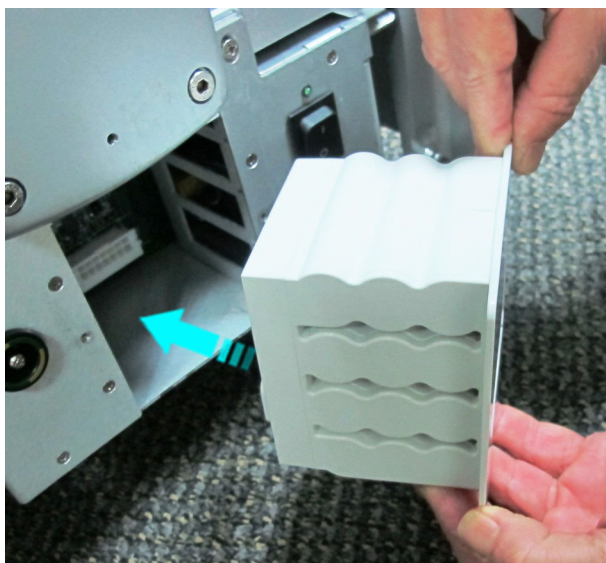

Figure 8-207 Installation of Battery in AC Distribution Box Compartment
- 1) Insert a replacement battery into the battery compartment as shown in Figure 8-207 below.